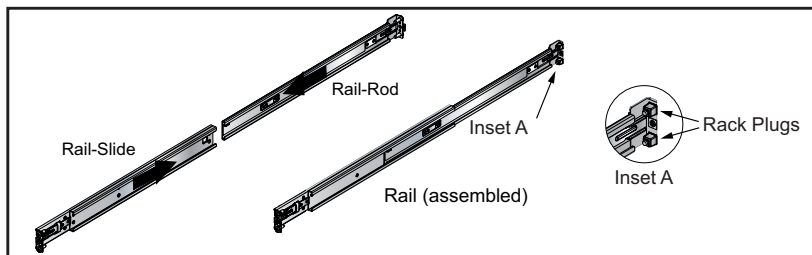

Figure 3-9: Assembling the Rails
Step 1 Slide a rail-rod into a rail-slide (Figure 3-9) until the rail clip makes an audible click.